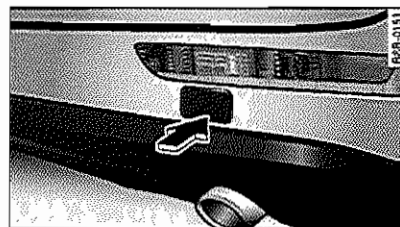

Fig. 243 Rear bumper:
- Press the cover in by applying short strong pressure to the bottom part to release it from the bumper ⇒ fig. 243.